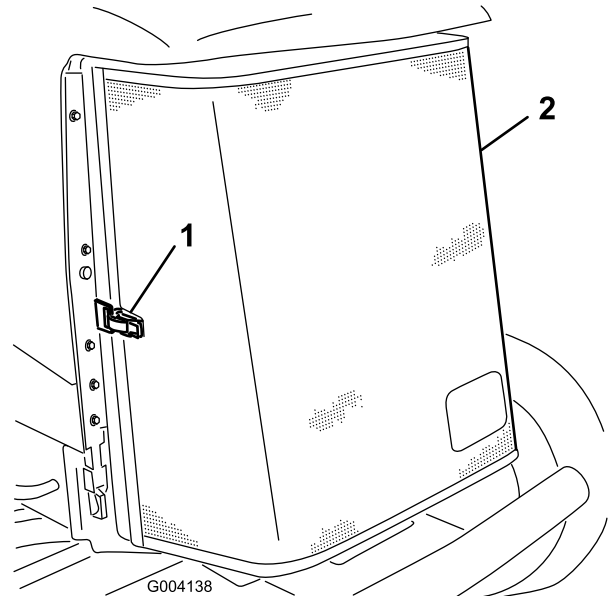

Figure 93
5. Unlatch the rear screen and pivot it open (Figure 93).